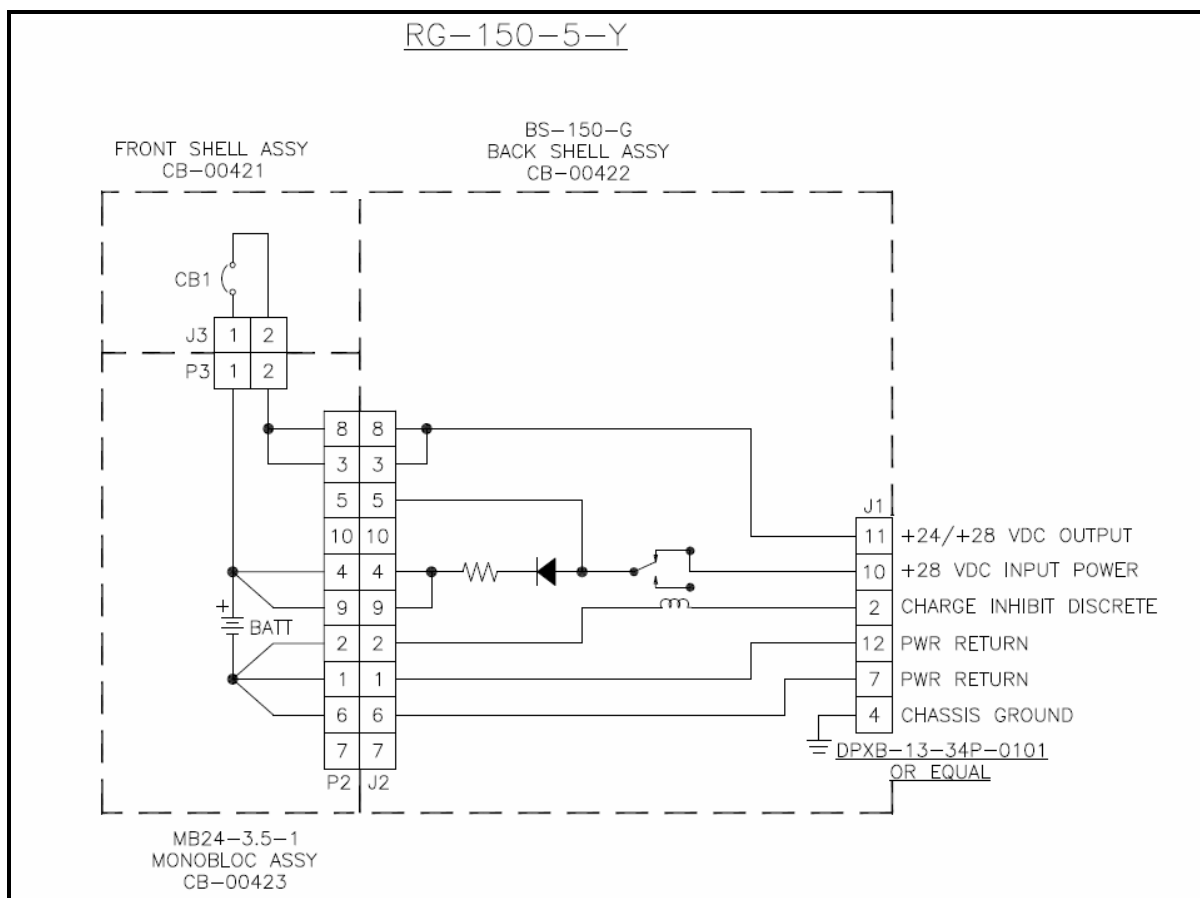

Figure 203. Schematic Diagram for RG-150-5-Y Battery
- C. The schematic diagram for the RG-150-5-Y battery is shown in Figure 203.